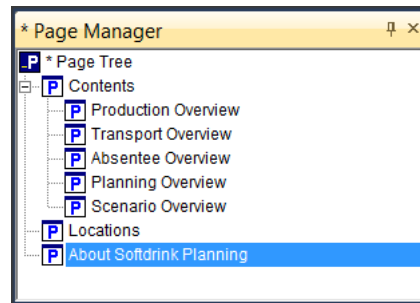

Figure 13.15: The page tree with the new *About Softdrink Planning* dialog page
- ▶ create a new page with the name 'About Softdrink Planning' (see Figure 13.15),